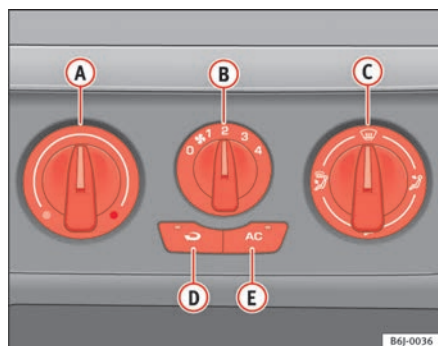

Fig. 87 On the dash panel there are the heating controls
- Turn the temperature selector ⇒ fig. 87 **A** anti-clockwise.
- Turn the temperature selector ⇒ fig. 87 **A** clockwise to select the desired temperature.
- Turn the temperature selector ⇒ fig. 87 **A** clockwise to reach the maximum temperature.
- Turn the temperature selector ⇒ fig. 87 **A** to the heating zone.
- Close outlets ③.
- Open and turn outlets ④ towards side windows.